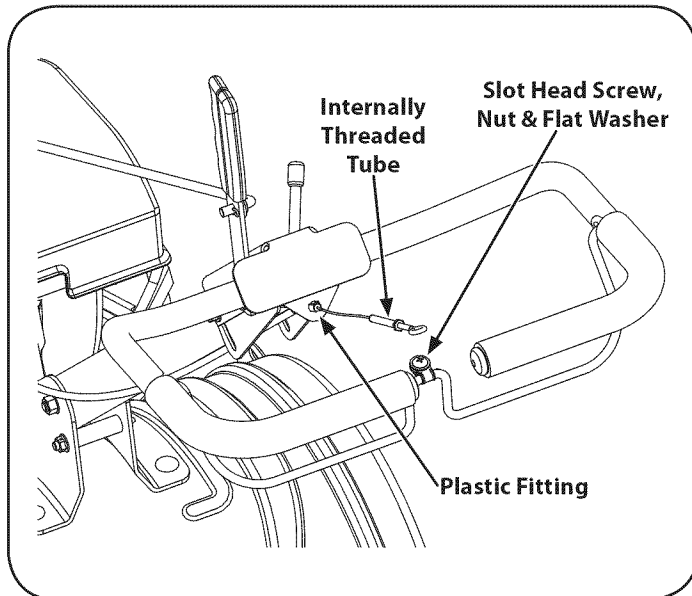

Figure 4
3. Push the cable through the hole in the center of the handle and snap in the plastic fitting. See Figure 4.